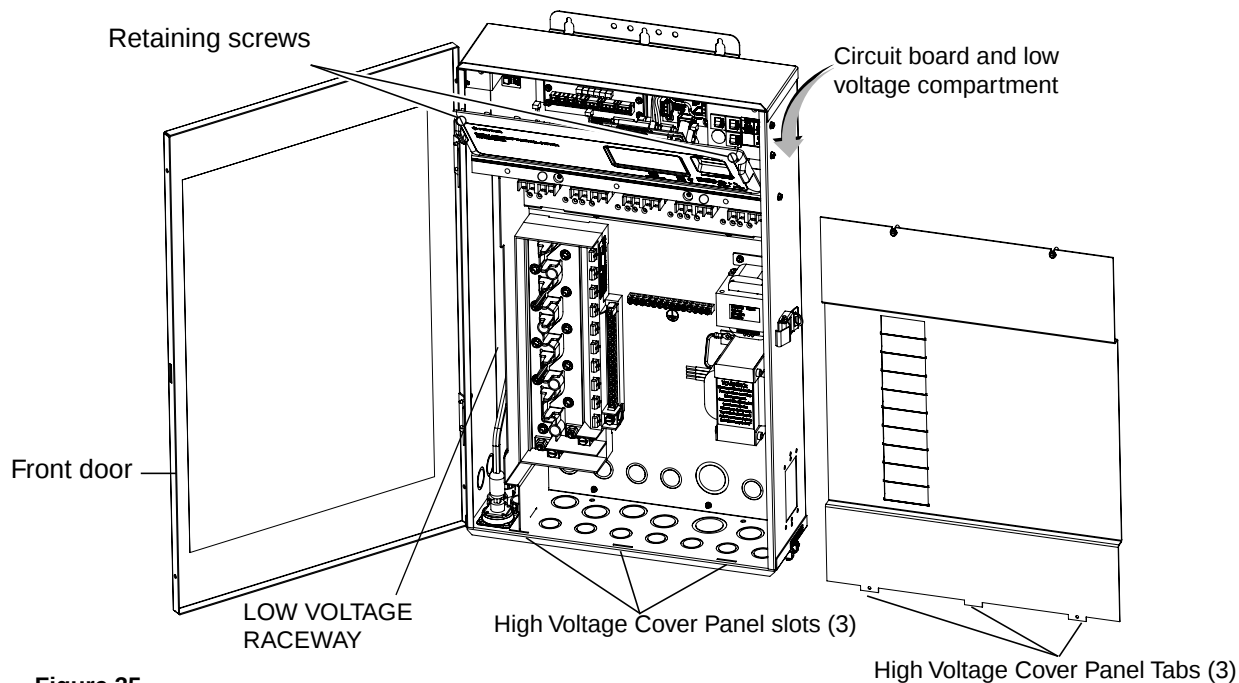

Figure 35
2. Unlatch the front door latch and open the front door. Remove the two retaining screws from the High Voltage Cover Panel and remove the panel. **See Figure 35.**
- Secure the panel with the two (2) retaining screws. Close the front door and secure with the latch. See Figure 35 on page 34.